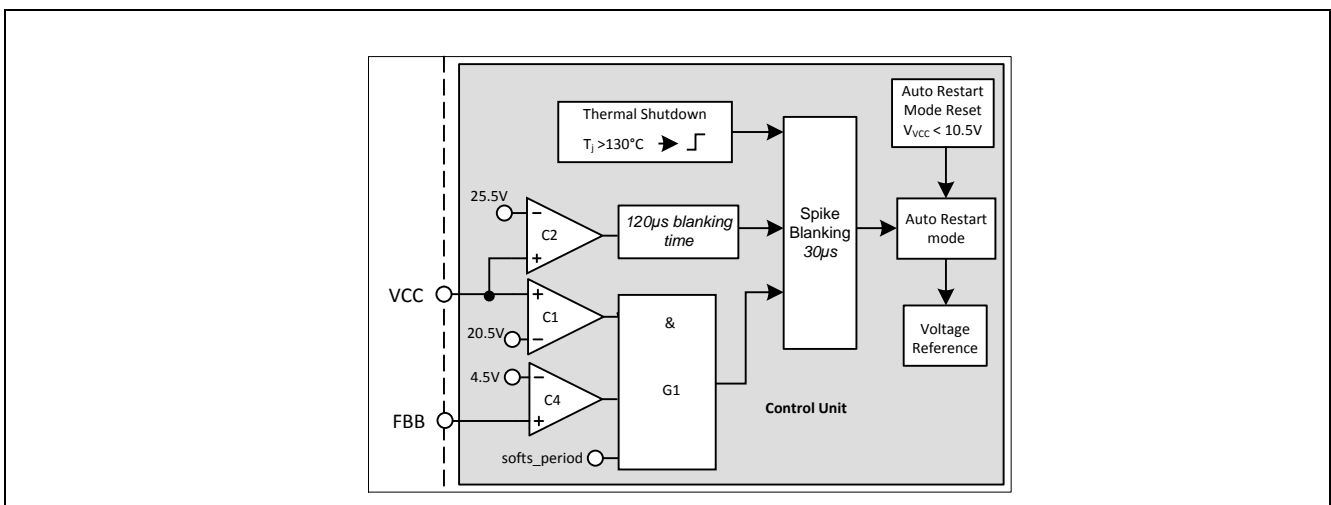

Figure 30: Vcc OVP and OTP
Vcc OVP (1) condition is when VVCC voltage is > 20.5V, VFBB voltage is > 4.5V and during soft start period, the IC enters into odd skip Auto Restart Mode. This condition likely happens during start up at open loop fault (Figure 30).
VCC OVP (2) condition is when VCC voltage is > 25.5V, the IC enters into odd skip Auto Restart Mode (Figure 30).
The over temperature protection OTP is sensed inside the controller IC. The Thermal Shutdown block keeps on monitoring the junction temperature of the controller. After detecting a junction temperature higher than 130°C, the IC will enter into the non switch Auto Restart mode. The ICE3AR4780VJZ has also implemented with a 50°C hysteresis. That means the IC can only be recovered when the controller junction temperature is dropped 50°C lower than the over temperature trigger point (Figure 30).